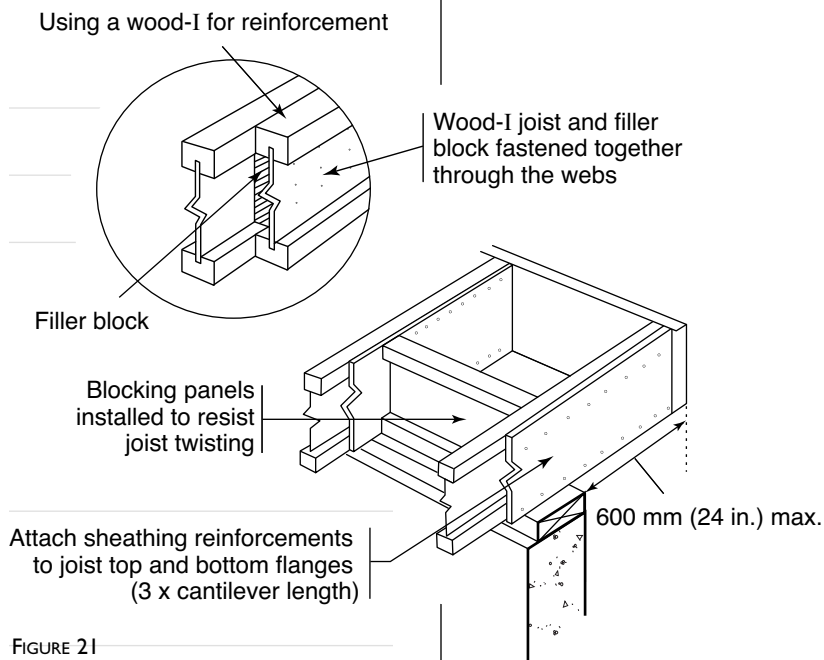

FIGURE 21
- ◆ Another option for reinforcement is to add another section of wood-I joist to the side of the cantilevered joists. The length of the added section is usually three times the length of the cantilever. A filler block is installed between the two webs, and the two sections are fastened securely through the webs and filler block (see Figure 21).